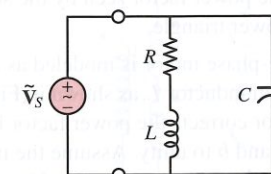

Figure P7.28
7.28 For the circuit shown in Figure P7.28, assume $f = 60 \text{ Hz}$, $\tilde{V}_s = 90\angle 0^\circ \text{ V rms}$, $R = 25 \Omega$, $X_L = 70 \Omega$, and $X_C = -8 \Omega$. Calculate: